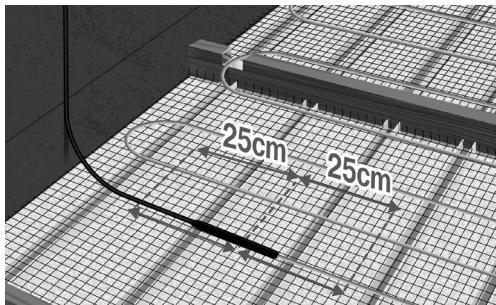

Fig. 16. Placer kablet lige på hver side af samlingen
- The cables are fastened approx. 25 cm on either side of the connection between the cold cable and heating cable, measured from the centre of the joint. Be sure to start so that cold cable can reach the thermostat. (Fig. 16).